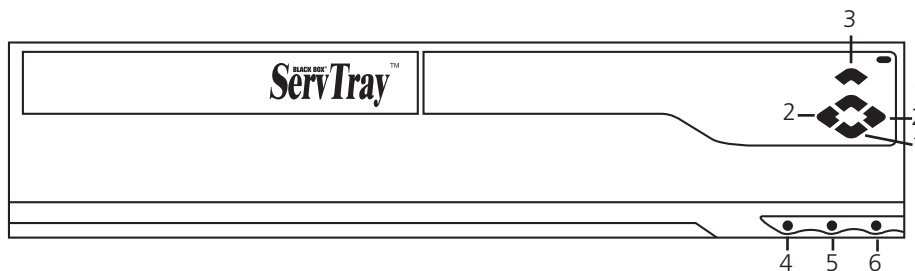

Figure 4-1. The ServTray's components.
Once the ServTray is installed and connected to a PS/2 or USB CPU or ServSwitch, it's ready for operation. Control the unit via the buttons on the LCD panel (labeled 1 and 2 in Figure 4-1) and the LCD panel power switch (labeled 3 in Figure 4-1). Monitor the status via the keyboard status indicators (labeled 4, 5, and 6 in Figure 4-1).
1. Use the LCD panel menu buttons (1 in Figure 4-1) to activate the OSD menu to set the LCD panel as an ordinary LCD monitor.
2. Use the LCD panel adjustment buttons (2 in Figure 4-1) to adjust settings for the LCD panel.
3. Switch the power to the LCD panel on or off via the power switch (3 in Figure 4-1).